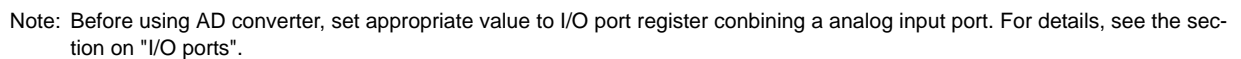

Figure 12-1 10-bit AD Converter
The circuit configuration of the 10-bit AD converter is shown in Figure 12-1.
- Set the AD conversion time using AD conversion time (ACK). For details on how to set the conversion time, refer to Figure 12-1 and AD converter control register 2.
- After setting up (1) and (2) above, set AD conversion start (ADRS) of AD converter control register 1 (ADCCR1) to "1". If software start mode has been selected, AD conversion starts immediately.